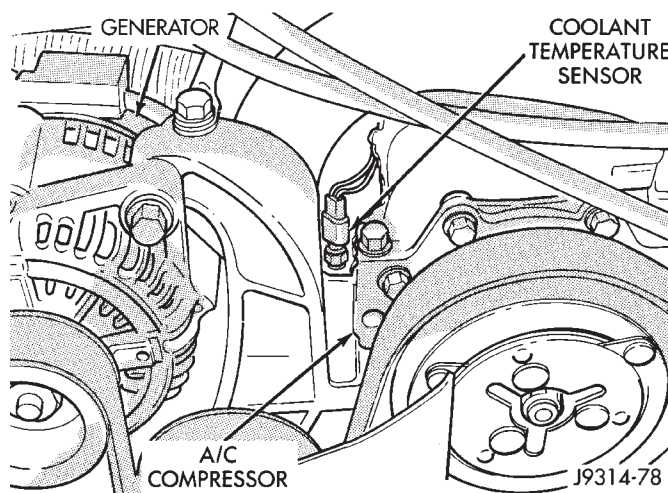
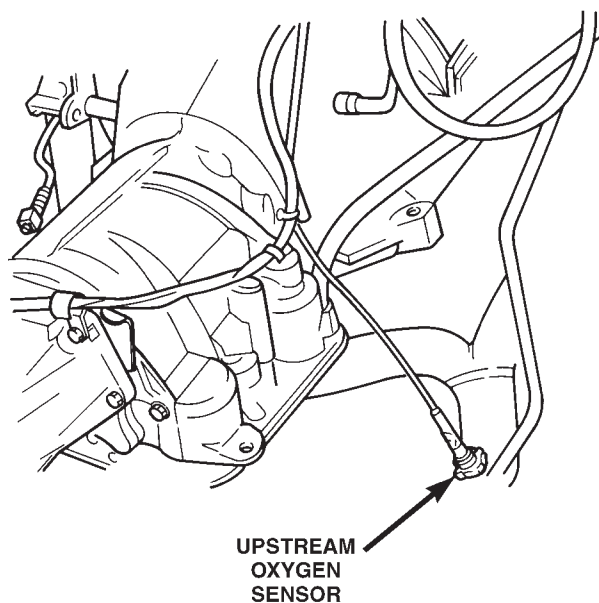

Fig. 29 Engine Coolant Temperature Sensor—5.2L Engines—Typical
Fig. 30 Upstream Oxygen Sensor—5.2L Engine
(19) Verify that wire harness connector is firmly connected to the engine coolant temperature sensor (Fig. 29).
(20) Raise and support the vehicle.
(21) Verify that both the upstream and downstream oxygen sensor wire connectors are firmly connected to the sensors. Inspect sensors and connectors for damage (Fig. 30) or (Fig. 31).